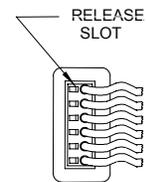

FIG. 11
6. Disconnect wire leads from ballast push-in terminals. (Insert pin or paper clip in RELEASE SLOT, Fig. 11)